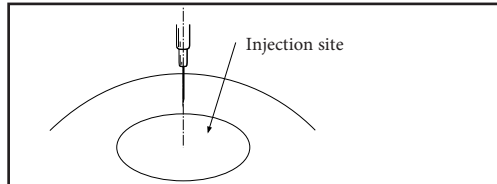

FIGURE 10
- Insert a new, sterile 21-gauge (or smaller) standard 12° bevel hypodermic needle into injection site. Ideally, the needle should enter perpendicular to the top of the injection site as shown in Figure 10.